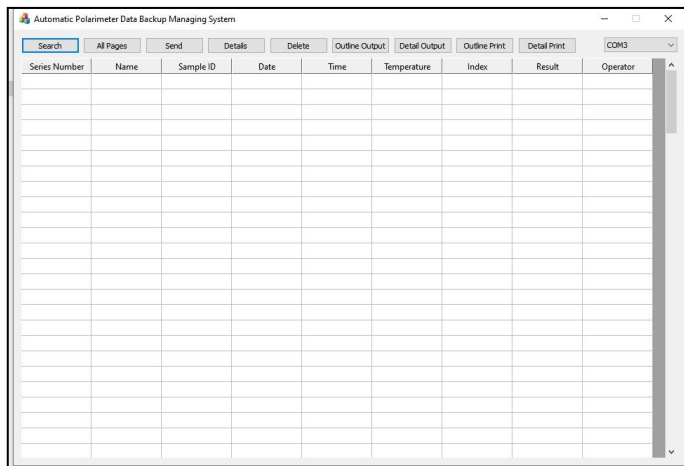

Fig. 40
5. Open the upper computer software, as shown in Fig 40, select the COM port connected to the computer, and the upper computer configuration is complete.